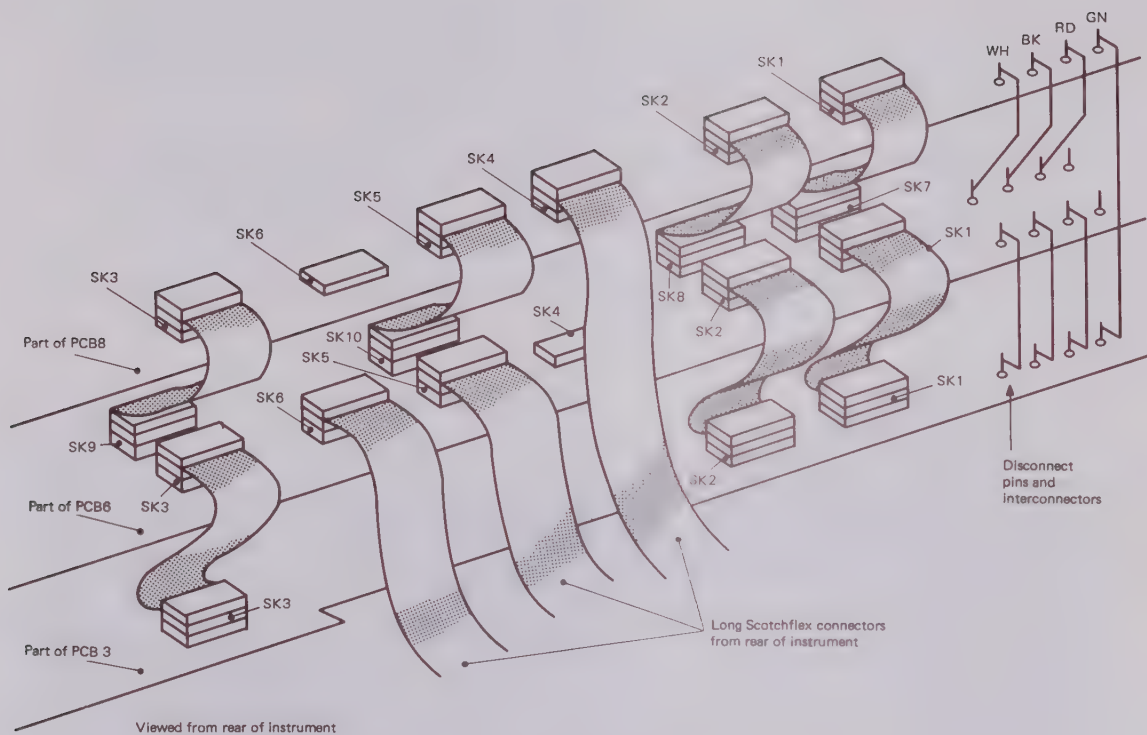

Fig. 4 Interconnections to PCB 6 and PCB 8
7. Make the remaining electrical connections to pcb 6 (Fig. 4) before locating pcb 8.
9. Make the electrical connections to pcb 8 as indicated (Fig. 4).